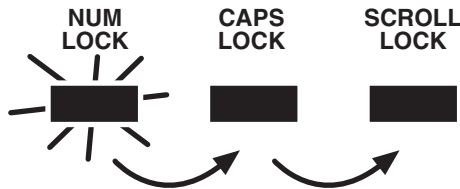

Figure 5-1. The configuration-mode LED pattern.
- Configuration-mode indication—rolling sequence.** As shown in Figure 5-1, the Extender flashes the Num Lock, Caps Lock, and Scroll Lock LEDs on the attached keyboard in sequence to show that it's in configuration mode (see Section 4.2.2). Num Lock will light first while Caps Lock and Scroll Lock are dark. Then Caps Lock only will be lit, then Scroll Lock only, and then Num Lock again. The cycle repeats itself continuously until you exit configuration mode, after which the LEDs will be placed back in the states they were in before you went into configuration mode.